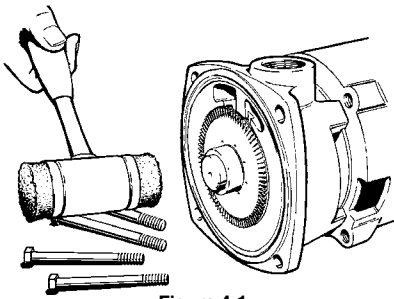

Figure 4-1
2. Remove the four (4) 3/8" X 4" bolts (#19) from the cover (#2).
4. Remove the impeller (#11), refer to Figure 4-1. The impeller is a slip fit and, under normal conditions, can be removed by gently tapping on the end of the shaft sleeve with a mallet. Leave the impeller key (#23) in place. Striking the sleeve too hard could damage the seat or rotating element.